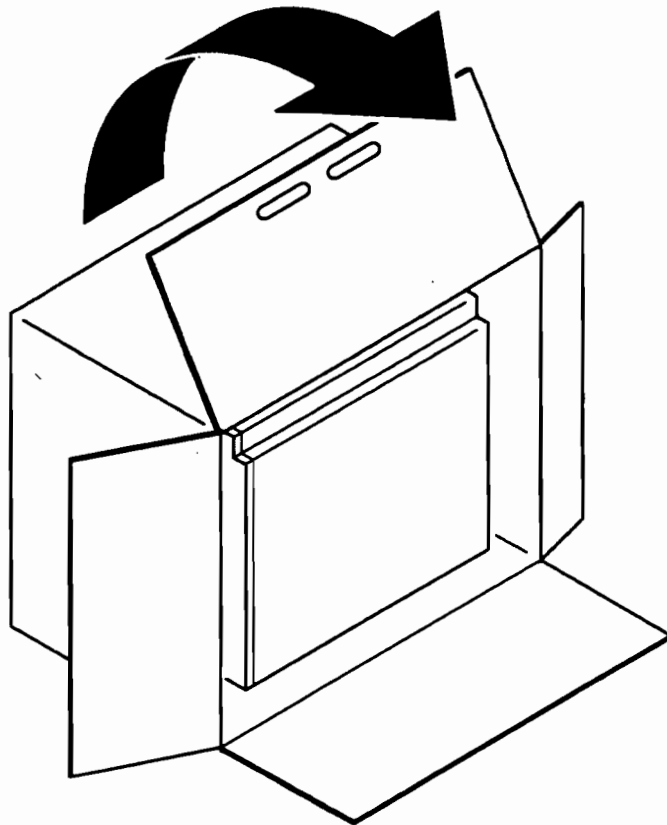

Figure 2-4. Turning Box On Its Side
4. Turn the shipping box on its side, as shown in figure 2-4, so that your computer is standing upright. This is done by grasping the handle on the shipping box flap and pulling the box towards yourself.